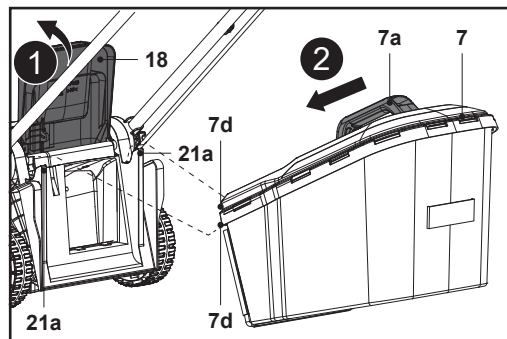

Fig. 7
- Open the rear deflector guard (18) and hold it in position (Fig. 7, step 1).
- Carry the grass catcher (7) by its carry handle (7a).
- Align the two catcher hooks (7d) with the slots (21a) and hang the grass catcher (7) onto it (Fig. 7, Step 2).
- Carefully release the rear deflector guard (18) afterward.